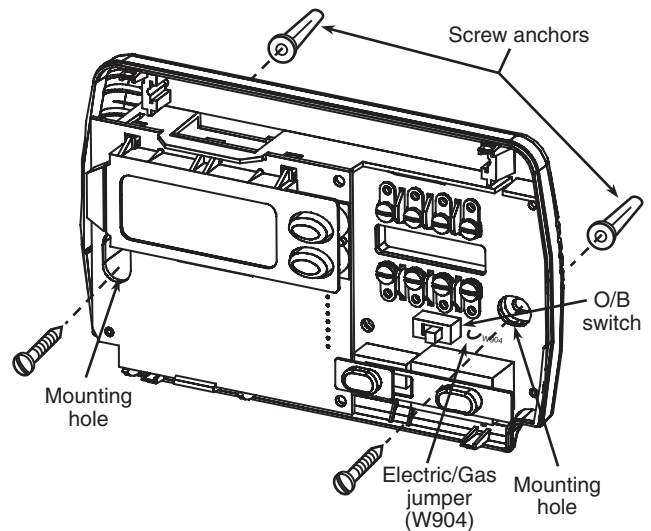

Figure 1. Thermostat Base
5. Fasten base loosely to wall, as shown in fig. 1, using two mounting screws. Place a level against bottom of base, adjust until level, and then tighten screws. (Leveling is for appearance only and will not affect thermostat operation.) If you are using existing mounting holes, or if holes drilled are too large and do not allow you to tighten base snugly, use plastic screw anchors to secure subbase.
If your emergency or auxiliary system will energize the blower, then jumper, W904, on the thermostat base must be cut (see fig. 1).